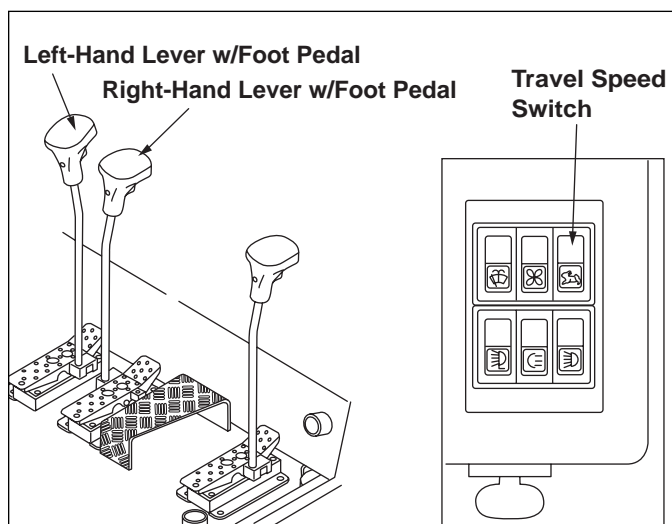

Figure 3-12. Travel Levers & Speed Switch
NOTE: If the travel speed switch on the console (Figure 3-12) is in the fast speed position, machine will not turn right or left. It will only go straight forward or rearward.
2. Push or pull the travel levers w/foot pedals to move the machine (Figure 3-12).